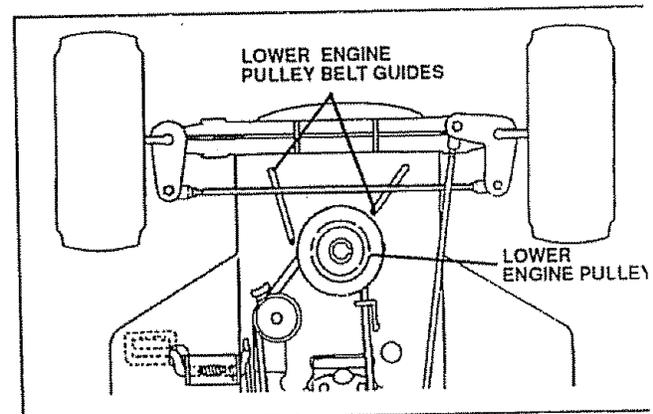

FIG. 22
- Pull lower engine pulley belt guides away from pulley (see Fig. 22).